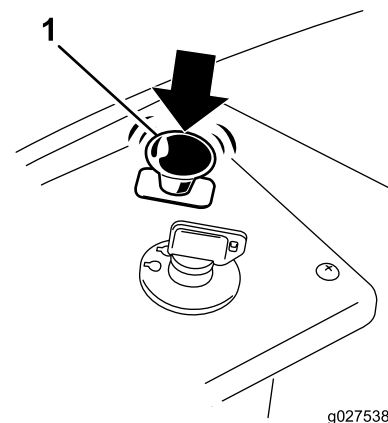

Figure 13
1. Disengage the blades by moving the blade-control switch to the OFF position(Figure 13).